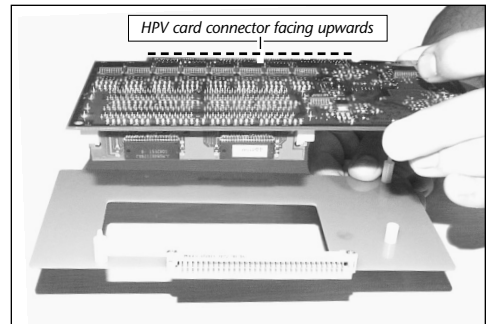

Figure 11: Orient HPV card over adapter board
- Align the HPV card directly over the video adapter board with the connector of the HPV card facing upward (**Figure 11**). The holes on the HPV card should align directly with the upper right and lower left standoffs on the adapter board.